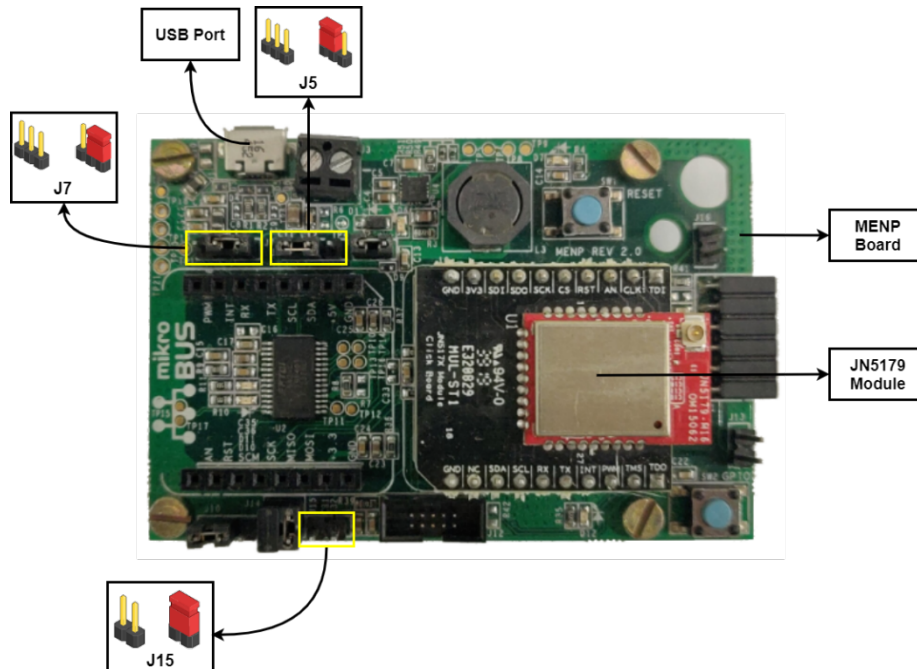

Figure 2-13: JN5179 MikroBUS Module on MENP
1. Prepare the MENP board by closing all the necessary jumpers and install the JN5179 MikroBUS module to be programmed shown in figure 2-13.